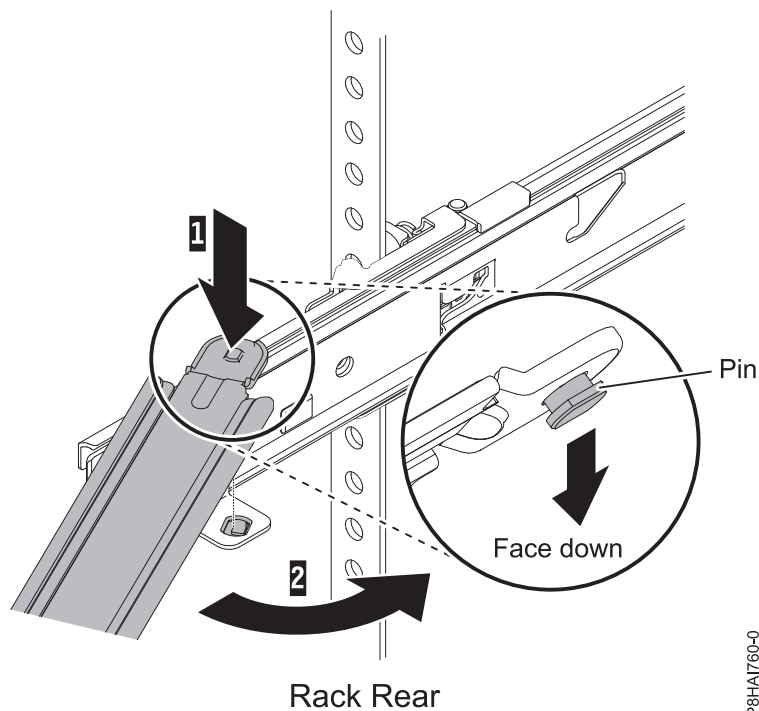

Figure 59. Support arm connection
8. The cable-management arm can be installed on either side of the server. Figure 59 shows it being installed on the left side. It is best to install the cable-management arm so that it hinges on the side opposite to the power supplies to provide access to the power supplies. To install the cable-management arm on the right side, follow the instructions and install the hardware on the opposite side. Place the pin down (1) into the horizontal slot on the rear of the slide rails. Then rotate the other end of the bar toward the rack (2) toward the rack.